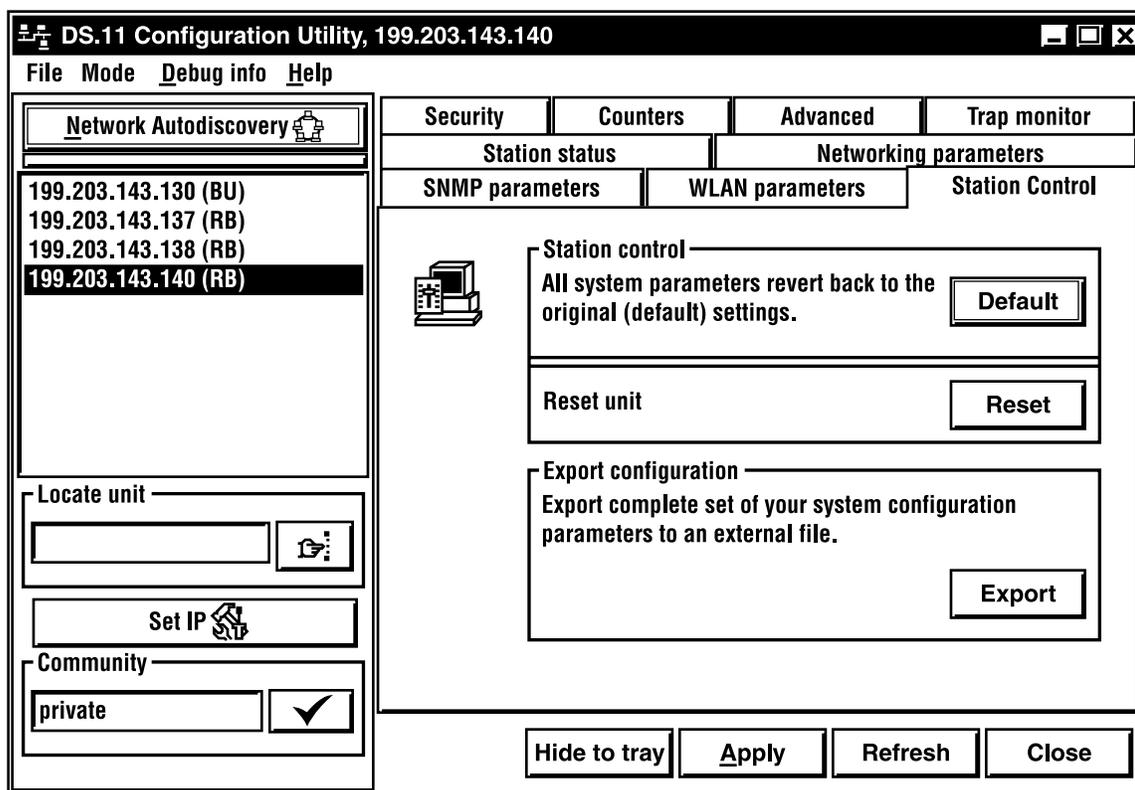

Figure 4-2. DS.11 Configuration Utility main window (Station Control tab).
- Click the Network Autodiscovery button. All the IP addresses of units that are in the same domain but not hidden behind a router (under the selected community) are displayed in the list box underneath the button. Click on an address to select the corresponding unit for viewing and configuration (see Figure 4-2.)